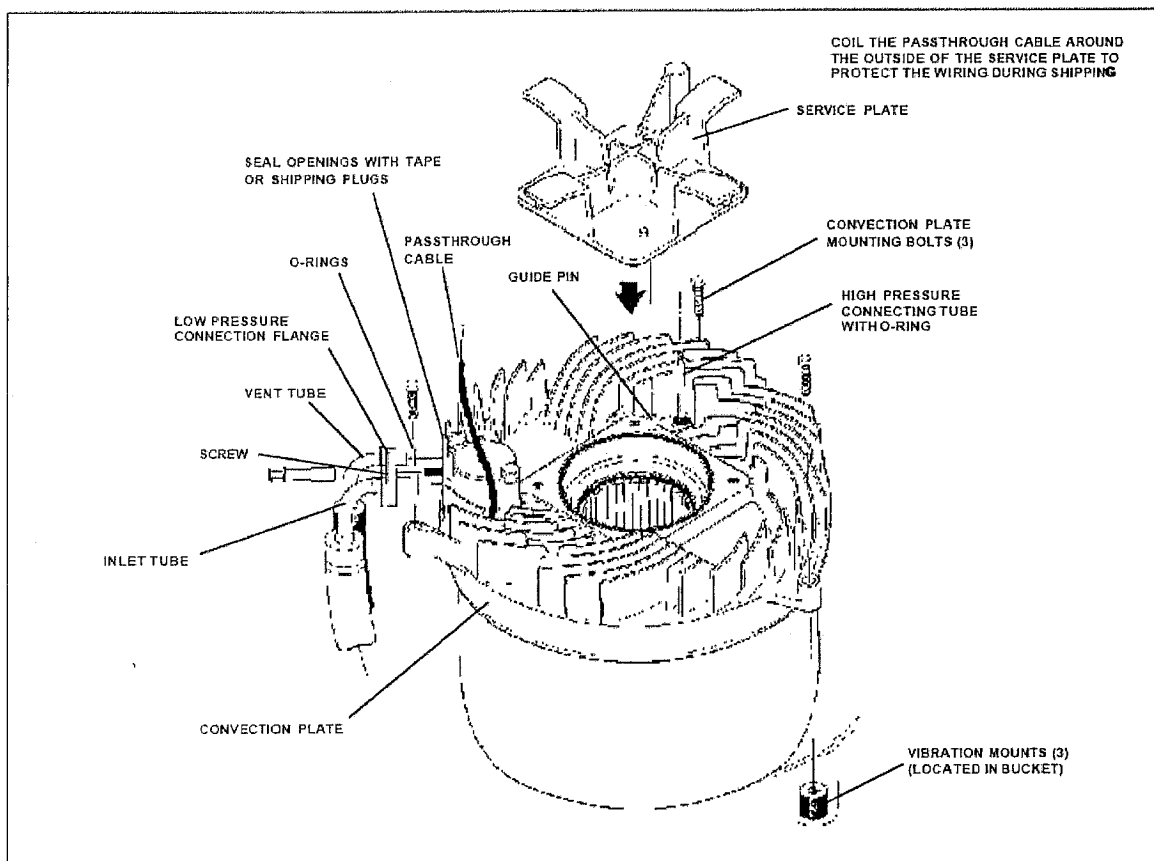

Figure 13 Control Module Removal and Replacement
- Undo/loosen the *low pressure connection flange* screw and pull the *inlet tube* and *vent tube* away from the manifold (See Figure 13).
- Remove and inspect the *O-rings* on the *inlet* and *vent tubes*; replace if damaged or hard (See Figure 13).